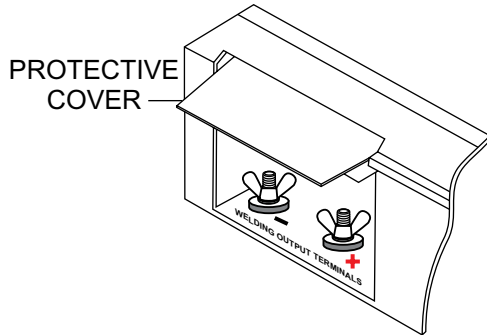

Figure 12. Protective Cover
- Lift the output terminal protective cover (Figure 12) on the welder-generator to gain access to the welding output terminals.